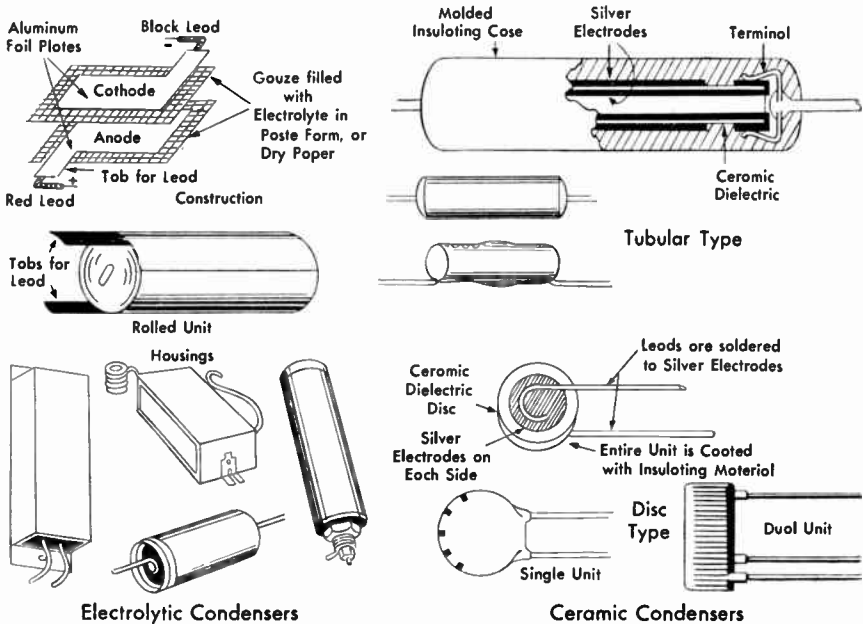

Fig. 3. Useful facts about electrolytic and ceramic condensers
**Electrolytic Condensers.** As Fig. 3 shows, an electrolytic condenser has metal-foil plates rolled together much like paper condensers, but uses a
**Ceramic Condensers.** A special ceramic material serves as the insulation between the plates in ceramic condensers, also shown in Fig. 3. The ceramic material is molded into a thin rectangular wafer, a cylinder, or a disk and baked until it is hard as rock. Thin coatings of silver are then